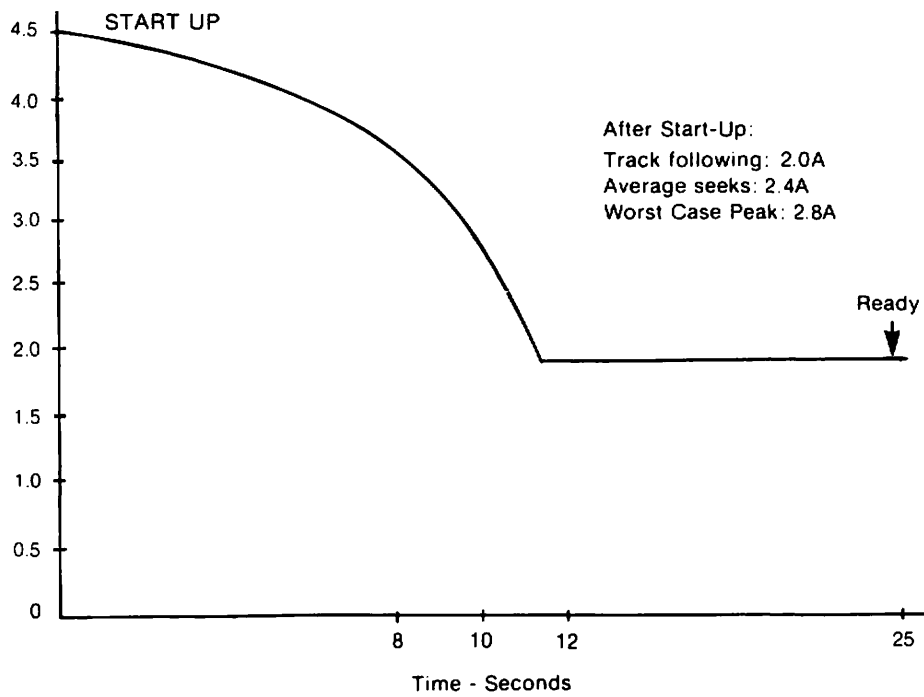

Figure 6-5
*Occurs only during power up, per curve. Figure 6-5